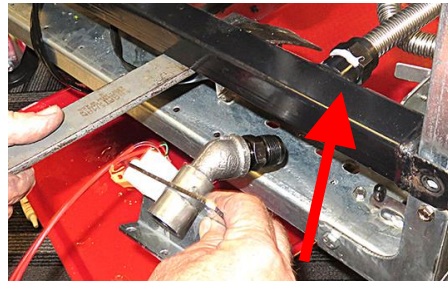

Figure 74
74. Using a prybar, gently lift the oil manifold up slightly to allow the oil dispose assembly 1085784 to slide in between the gas and oil manifolds (see Figure 74).